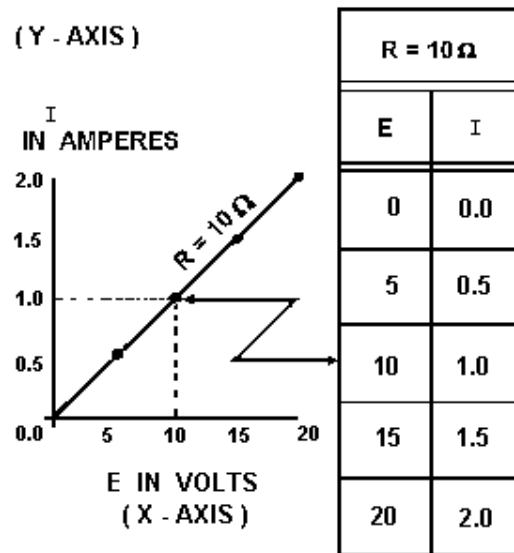

Figure 3-7.—Volt-ampere characteristic.
Figure 3-7 shows the graph and a table of values. This table shows  $R$  held constant at 10 ohms as  $E$  is varied from 0 to 20 volts in 5-volt steps. Through the use of Ohm's law, you can calculate the value of current for each value of voltage shown in the table. When the table is complete, the information it contains can be used to construct the graph shown in figure 3-7. For example, when the voltage applied to the 10-ohm resistor is 10 volts, the current is 1 ampere. These values of current and voltage determine a point on the graph. When all five points have been plotted, a smooth curve is drawn through the points.
*Q7. Using the graph in figure 3-7, what is the approximate value of current when the voltage is 12.5 volts?*